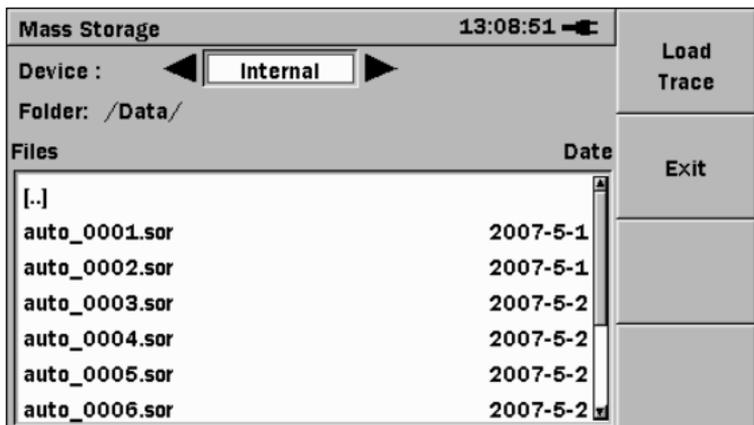

Figure 3-11: Mass Storage Load Trace screen
2. Highlight **Load** and then press the **Set key**. The Mass Storage Load Trace screen appears (see Figure 3-11).